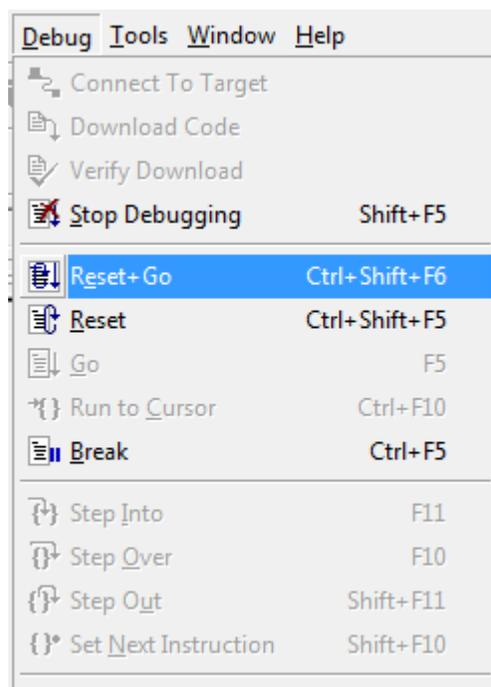

Figure 11. Select Reset+ Go from the Debug Menu
14. To run the application, select **Reset+Go** from the **Debug** menu, as indicated in Figure 11. As a result, power LED1 will light up. LED2, LED3, and LED4 will blink in sequence.